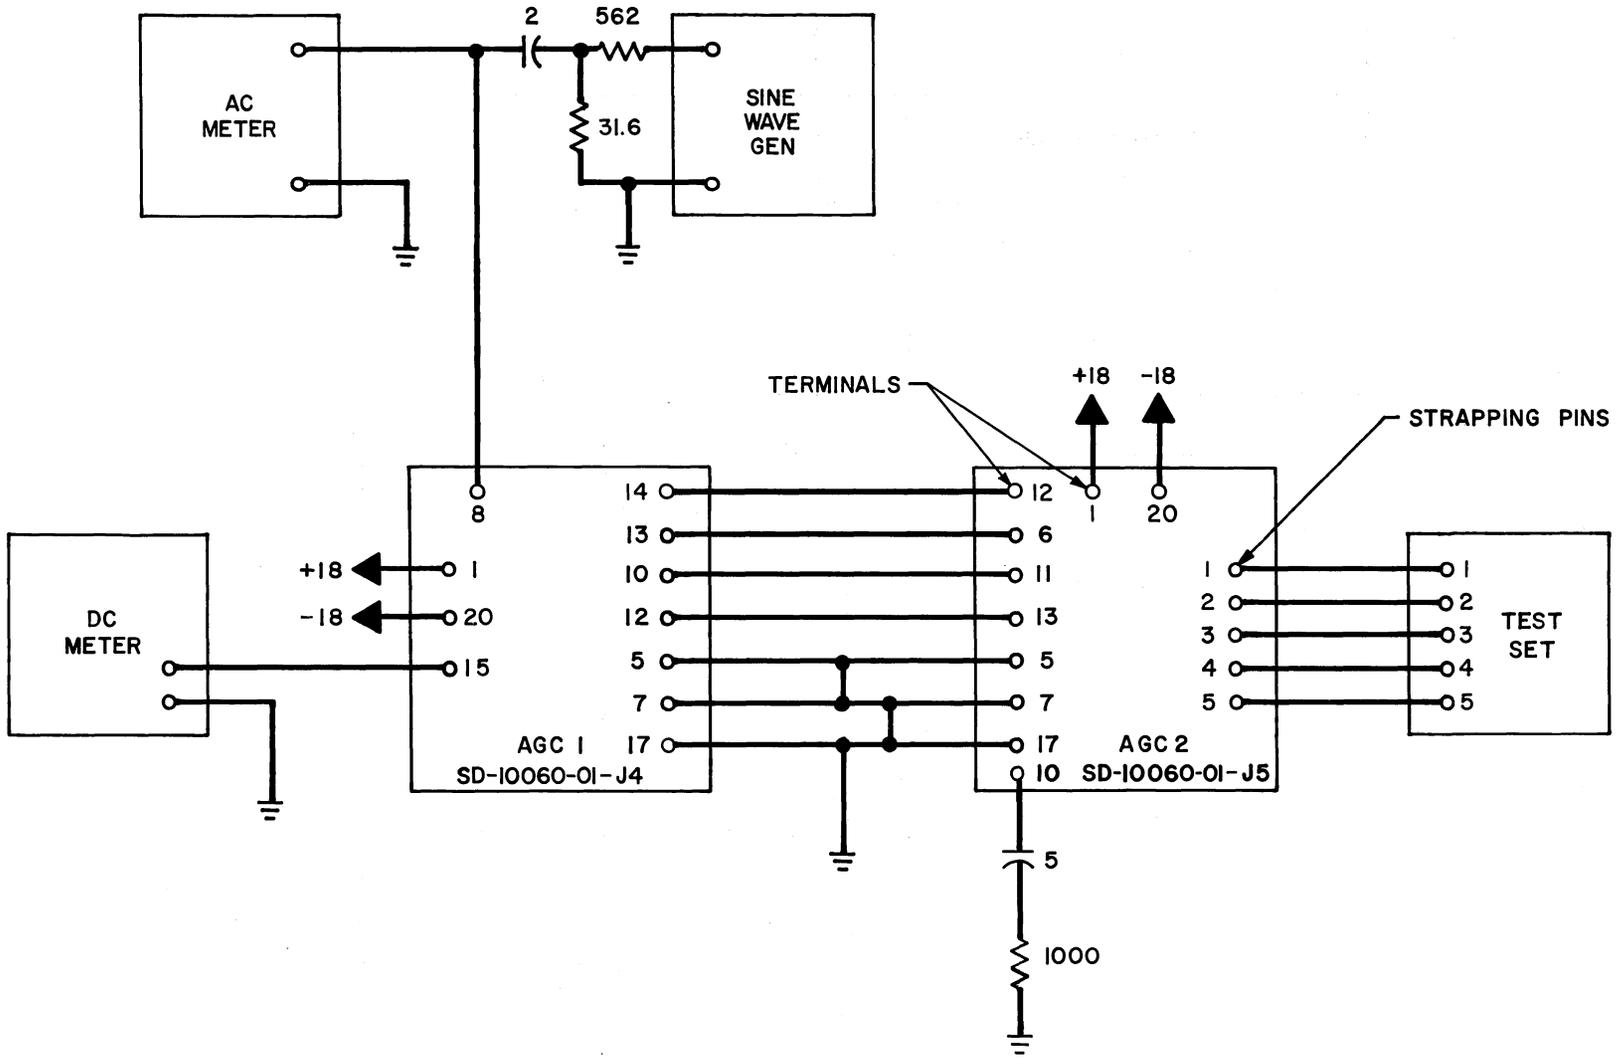

Fig. 19 - (Automatic Gain Control 2 Test)
- (1) The gain adjustment of the AGC2 card is made in conjunction with the AGC1 card. Connect the cards as in the suggested test circuit shown in Fig. 19. Connect power to both cards as specified in 10.25 (a).
- (3) Connect the sine-wave generator in series with a 2-uf capacitor to terminal 8 of the AGC1 card as shown in Fig. 19. Set the frequency of the generator to 1800 cps ± 5 per cent and adjust the amplitude to obtain a 13.1 \pm 0.05 mv rms signal between terminal 8 and ground of the AGC1 card. The voltage between terminal 15 and ground shall be +6.6 \pm 0.8 volts dc.
- (4) Rotate switches A and B on the test set, beginning with both switches at position 1, according to the sequence given in Table C, until the voltage between terminal 15 and ground on the AGC1 card